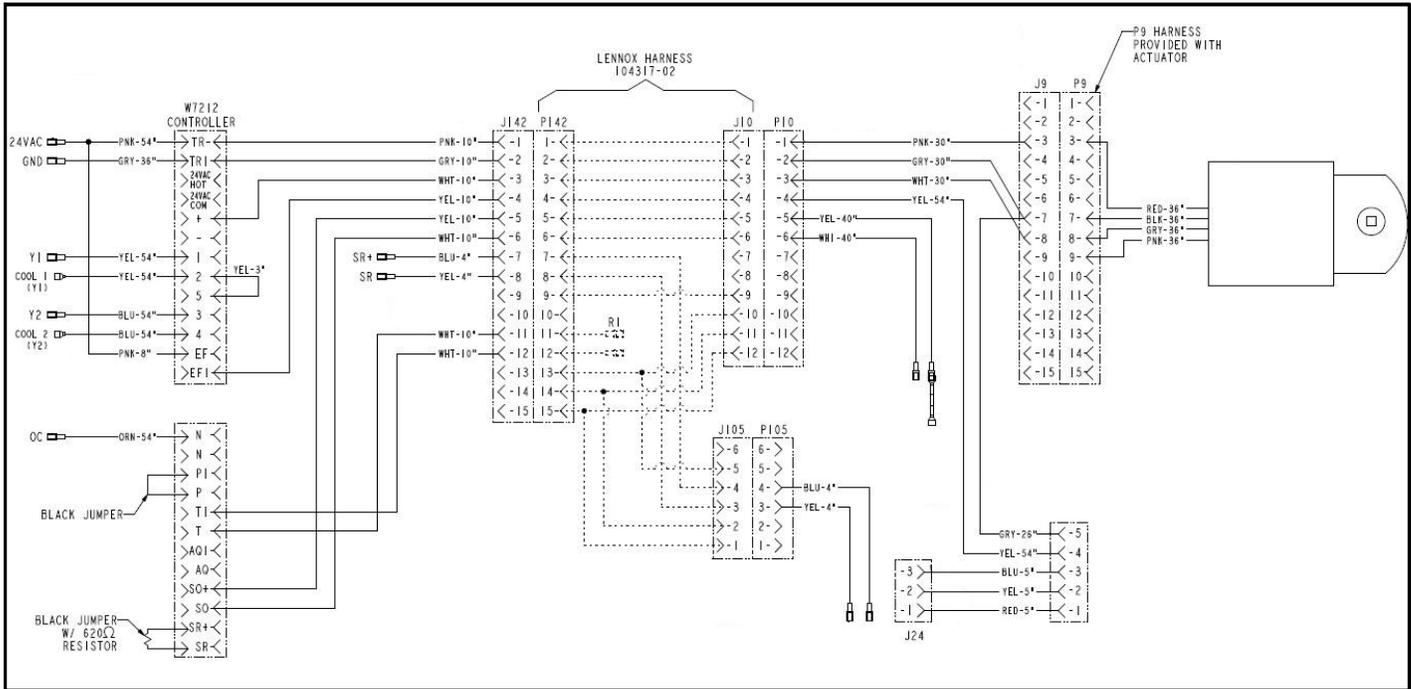

FIGURE 23
- 5- Connect any optional sensors as shown in Figure 23..
- 6- If optional power exhaust is used, wire according to instructions provided with power exhaust. See Figure 23.